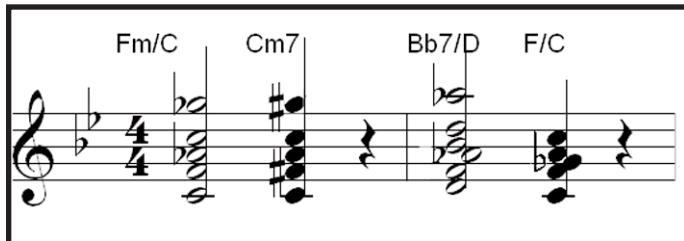

Figure 2. Extended chords in the key of F.
**Figure 2** shows some of the alternatives which are available if you are working in the key of F or Bb, as I usually do.